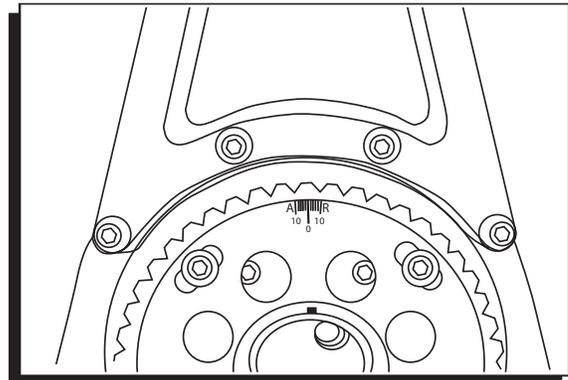

Figure 1 Installing the Distributor Bracket.
1. Install the distributor assembly using the four supplied socket head cap screw and washers (Figure 1).